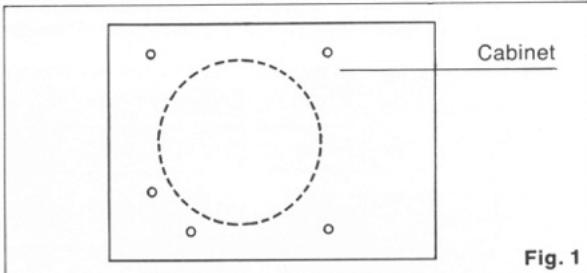

Fig. 1
1. Referring to the installation diagram, make openings in the cabinet for the turntable base and installation screws. (Fig. 1)